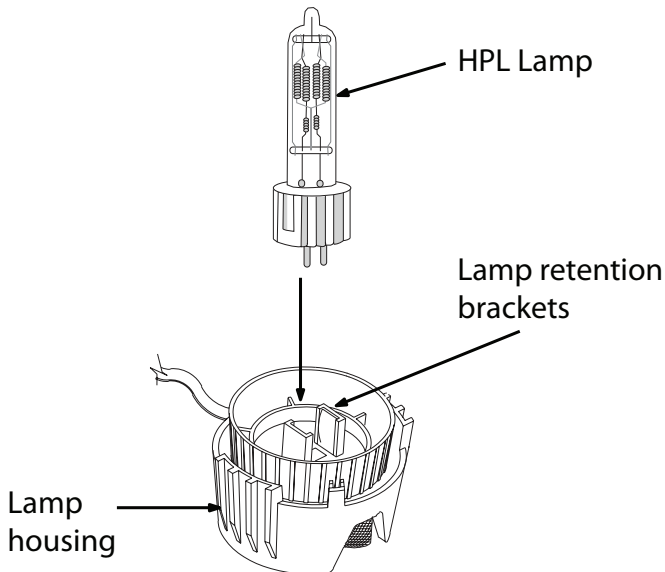

Fig.2
3. Remove the lamp housing, substitute the lamp (fig.2).